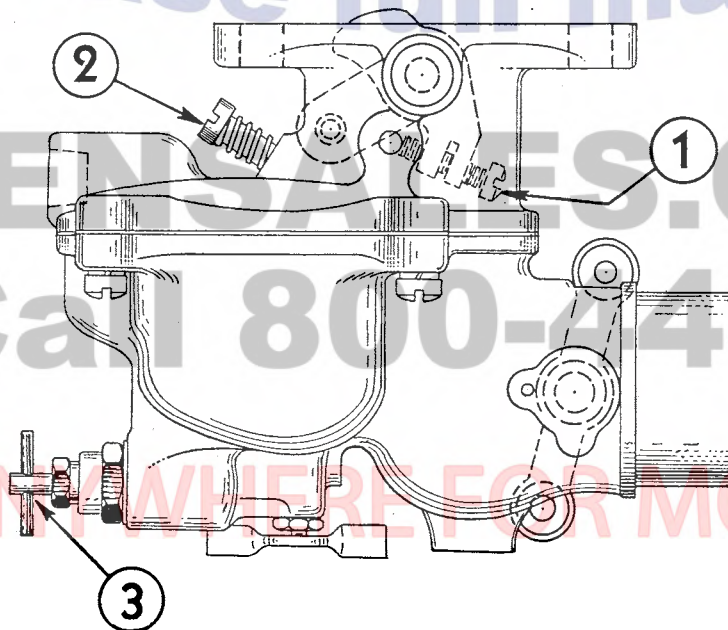

Fig. 5. Carburetor
Adjustment for idle speed and idle mixture are best made together, and should be made with the engine warm. The throttle lever on the seat mounting bracket should be all the way forward before starting this adjustment. The stop screw (1) Fig. 5 on the throttle lever should be adjusted so that the engine will idle fast enough to prevent stalling. Then turn the idling adjusting screw (2) in or out until the engine runs evenly.